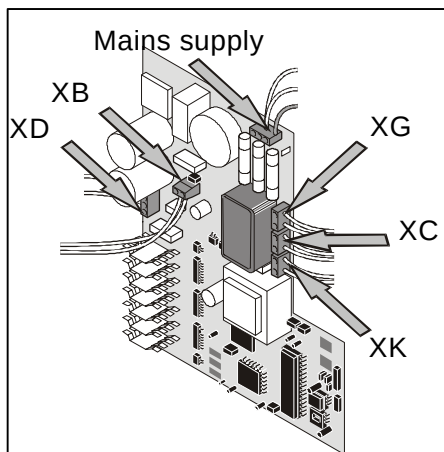

Figure 12
5.3.2 Main Board (240)
- disconnect all terminal connections as: mains supply, lid magnet XC, brake resistor XD, overtemperature cut out XB, fan for electronics XK and relay for compressor XG (Figure 12).